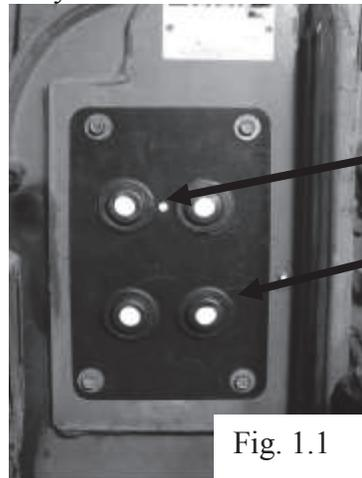

Fig. 1.1
- 3) Install the new firewall block off plate with grommets. Use the original bolts from the blower fan assembly to mount the block off plate. See Figure 1.1